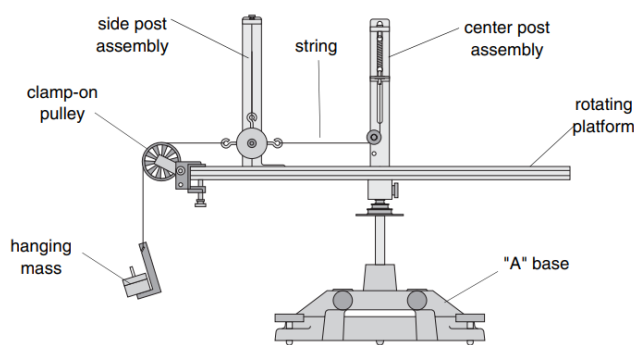
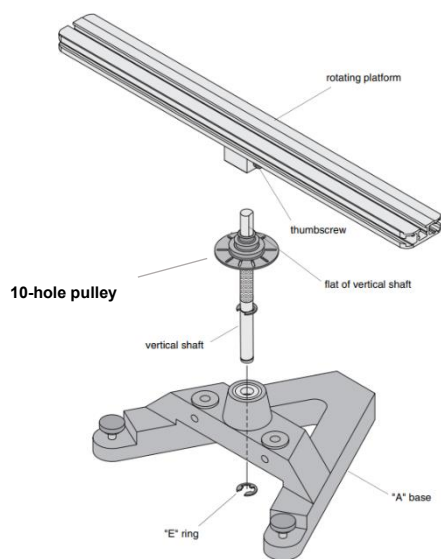

Fig. 1. Schematic of Centripetal Force Apparatus
Fig. 5. Attaching the Vertical Shaft to the Base and Rotating Platform Assembly
- (1) Download the software needed for this experiment in advance
- (2) Make a flowchart of this experiment and answer the questions
- (i) Consider the experiment setup illustrated in Fig. 1~ Fig. 5,
- (1) Set up the equipment, as shown in Fig. 1.